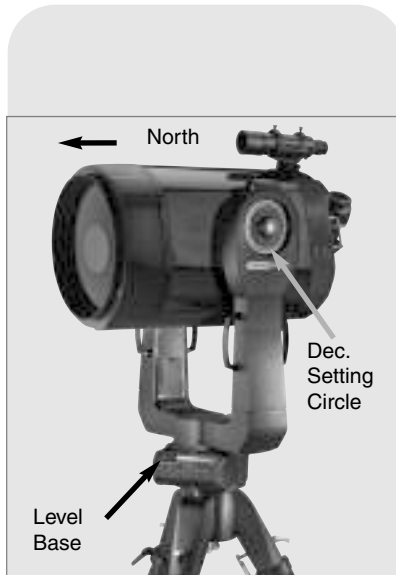

Fig. 32: Alt/Az Home Position. Note that the Control Panel should face South, which is not depicted in the above photograph.
- **Home Sensors:** Turns off or on the True North and True Level sensors, if preferred, for Easy, One-Star, and Two-Star alignment. User must then manually level the telescope, set Dec. circle to 0°, point the optical tube to True North and point the control panel on the base to South during alignment. The default setting for this menu is "On." See **Figs. 32 and 33**.